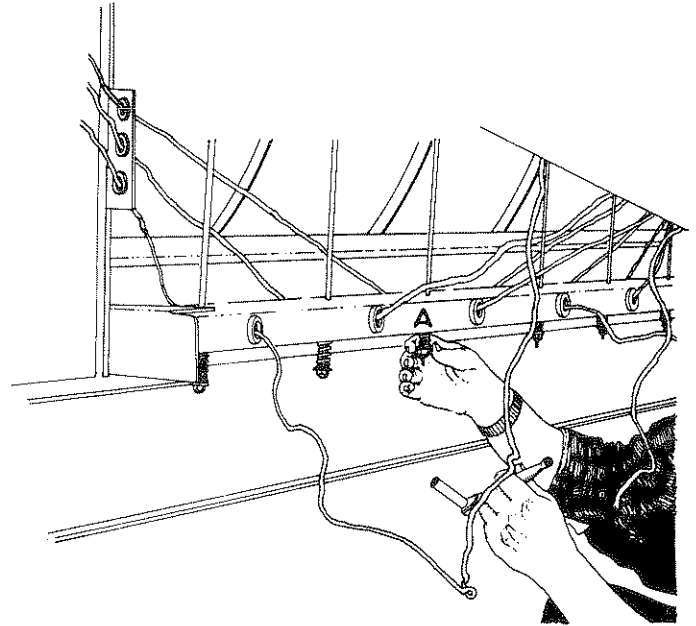

Fig. 4
4. Route the twine through the twine guides located near the twine tensioners. Proceed pulling the twine through the twine tensioners, see Fig. 4. A button hook is useful to pull twine through the twine tensioners.